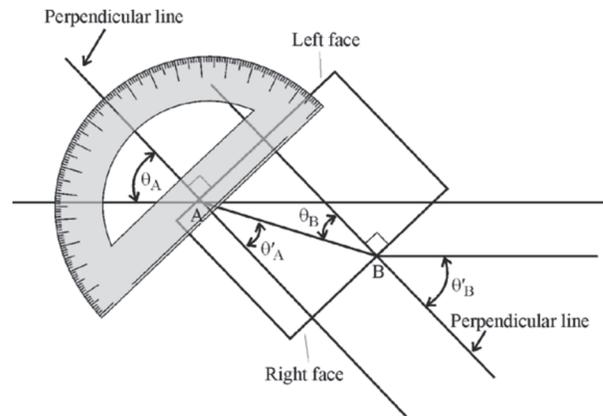
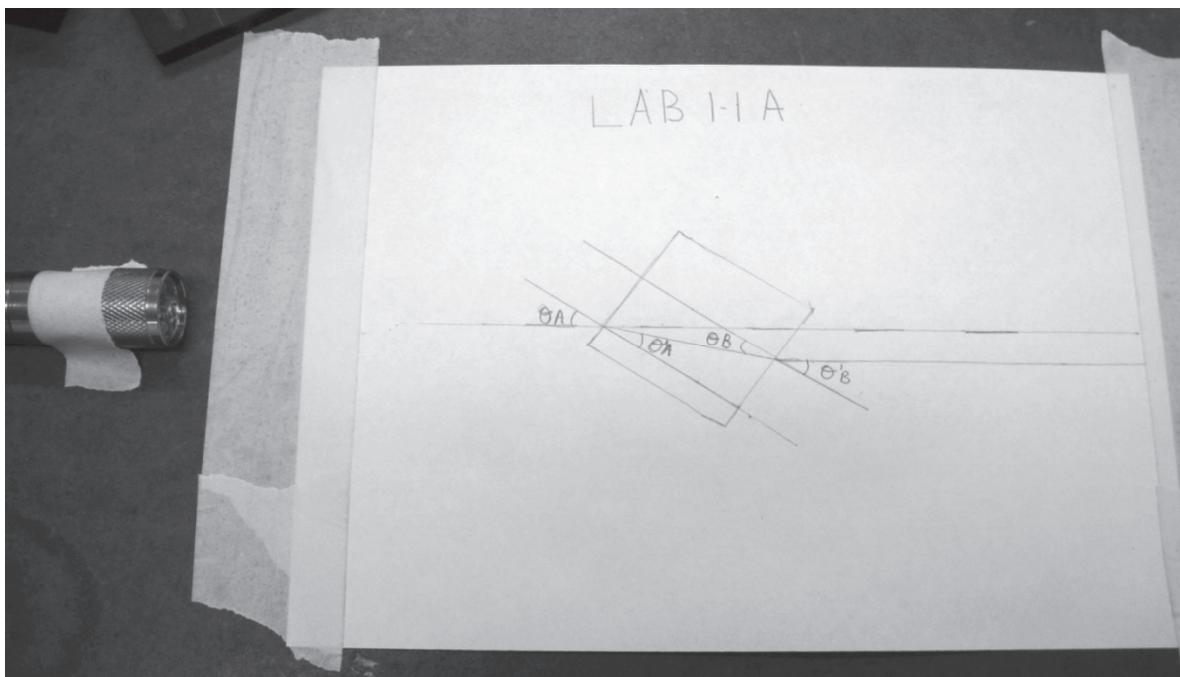

Figure 8 – Protractor Measurements Illustrated
Figure 9 – Sketches of Incident and Refracted Beams
- Use the protractor (LI-4) to draw a line through point A that is perpendicular to the left face of the block. Draw another line through point B that is perpendicular to the right face of this block. Refer to Figure 8 and Figure 9.
7. Measure and record the angle θ_A between the incident beam and the normal line at the left face of the block (point A). Do the same for the refracted beam at this face. This is angle θ'_A . Refer to Figure 8 and Figure 9.
8. Measure the angle between the normal line and the incident and refracted (exit) beams at the right face of the block (point B). Label these as θ_B and θ'_B . Refer to Figure 8 and Figure 9.